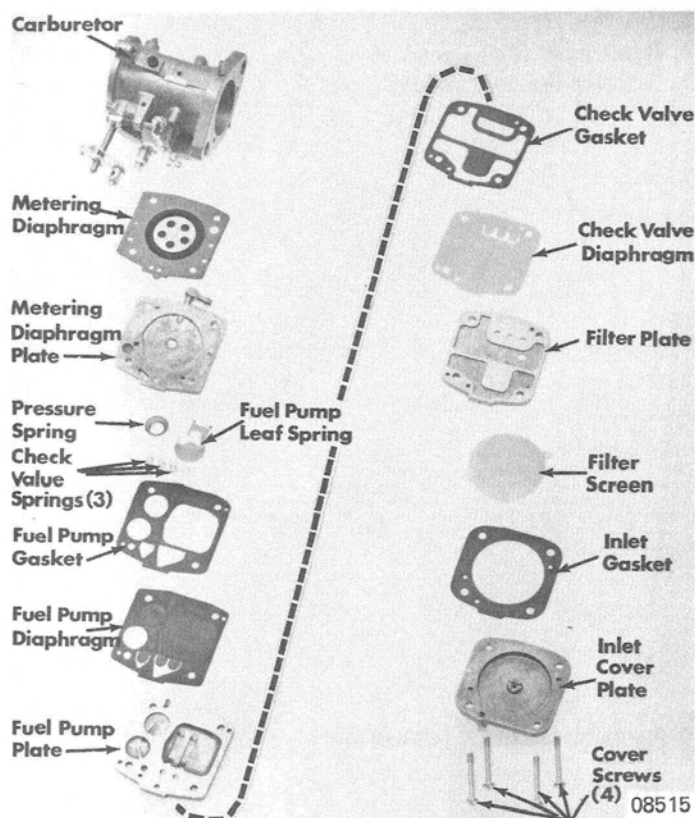

Figure 7. 440 S/R, 440 MAX (Chassis Serial No. 3709838 and Above) and Mark II (Chassis Serial No. 3787640 and Above)
1. Using index mark made during "Removal", reassemble fuel pump gaskets, diaphragms, plates, springs and filter screen, as shown in Figure 7. Parts fit one way only. Secure with 4 screws.